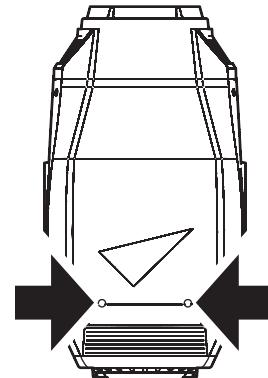

Figure 1
3. See Figure 1. Release the head cover retaining screws (arrowed) and remove both top and bottom head covers.